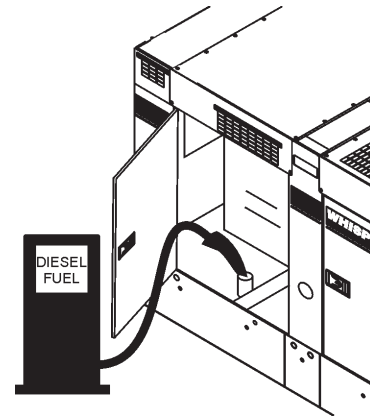

Figure 32. Fueling the Generator
2. Open cabinet doors on the “right side” of the generator (from generator control panel position). Remove fuel cap and fill tank (Figure 32).